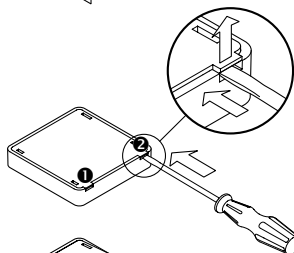

Fig. 4/Abb. 4
1. Open the back cover as shown in Fig. 4.